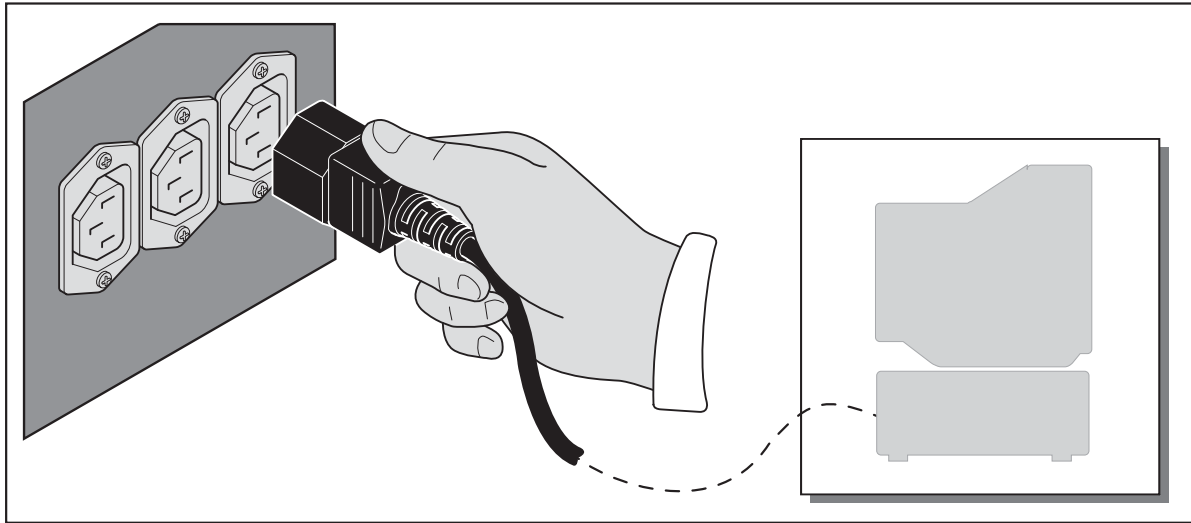

Figure 5-3
3. Connect the computer and monitor power supply cords to the auxiliary sockets on the rear door (Figure 5-3). **Do not use power cords that are not in good condition or are unsuitable.**